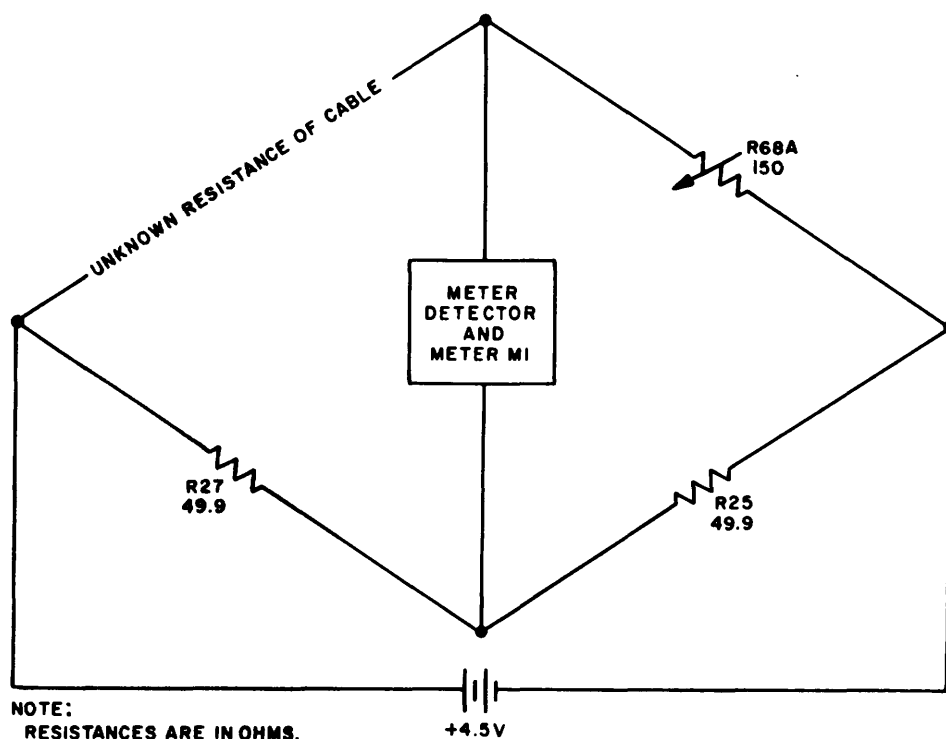

Figure 2-3. Resistance bridge, schematic diagram.
- (1) Switch S3 is set to BRIDGE. With CAPRES switch S4 set to RES and READ switch S5 depressed, the cable resistance at connectors 9 and 10 or terminal 14 is made available for the measurement in the resistance bridge circuit (fig. 2-3). A potential of + 4.5 volts dc is also applied to the bridge circuit through switch S4C and contacts 2 and 7 of switch S5.
- (2) The resistance bridge circuit is a Wheatstone bridge. A balance of the resistance bridge is accomplished by varying the resistance of potentiometer R68A until it balances the unknown cable resistance.
- (3) The balance of the resistance bridge is applied to opposite sides of a meter detector composed of diodes CR5 through CR8. With no voltage drops across diodes CR5 and CR6, an output is applied through load resistor R94 and through contacts 6 and 7 of the switch S3A to TEST METER M1. The return path is through contacts 9 and 8 of switch S3B to the junction of diodes CR7 and CR8. Diode CR9 protects TEST METER M1 if a dc voltage is inadvertently applied to the cable under test.